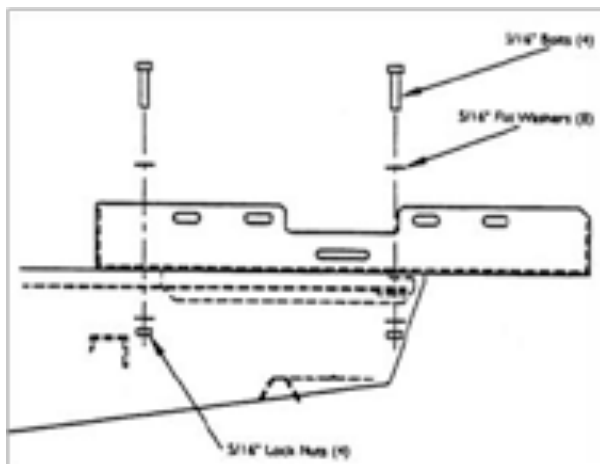

Figure 4a
2. Orient SmartBox® cradle as shown (see figure 4a, b, and c).